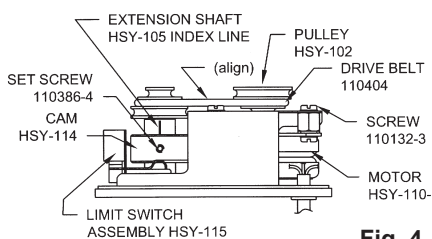

Fig. 4
8. RHSY Series pumps are powered by belt-coupled synchronous motors (refer to figs. 4 & 7c). To service this type of pump, un-plug power cord, loosen THUMB SCREW 110437 on rear of CASE ASSEMBLY HSY-109 from COVER ASSEMBLY HSY-113. It will then be noted that a machine SCREW 110230-6 and a STANDOFF 110439 serve to lock the RH pump head assembly and the SY motor assembly to the COVER ASSEMBLY HSY-113. Removal of the machine screw and standoff permits removal of pump head and/or motor bracket assembly. Loosening the two machine SCREWS 110132-3 holding the MOTOR ASSEMBLY HSY-110- permits adjustment of the drive belt tension (relocates motor position) Pulley grooves on motor and pump must be in alignment as shown in fig. 4. SET SCREWS 110288-2 in parts HSY-102 and HSY-105 may be loosened as necessary to achieve such alignment. Tighten screws after any service adjustment and replace CASE ASSEMBLY HSY-109 before plugging electric cord into outlet.
Belt tension should be adjusted to taut condition (no arc in belt between pulleys) but should not excessively stretch the belt. Pump stroke rate is controlled by the groove position in which the belt has been placed. Thus in fig. 4, with belt in central position as
shown, the pump operates at 300 strokes per minute; with belt on the small-motor-pulley and large-pump-pulley, (fig. 4) it operates at 150 strokes per minute and with the belt on the largemotor-pulley/small-pump-pulley the pump operates at 600 strokes per minute.